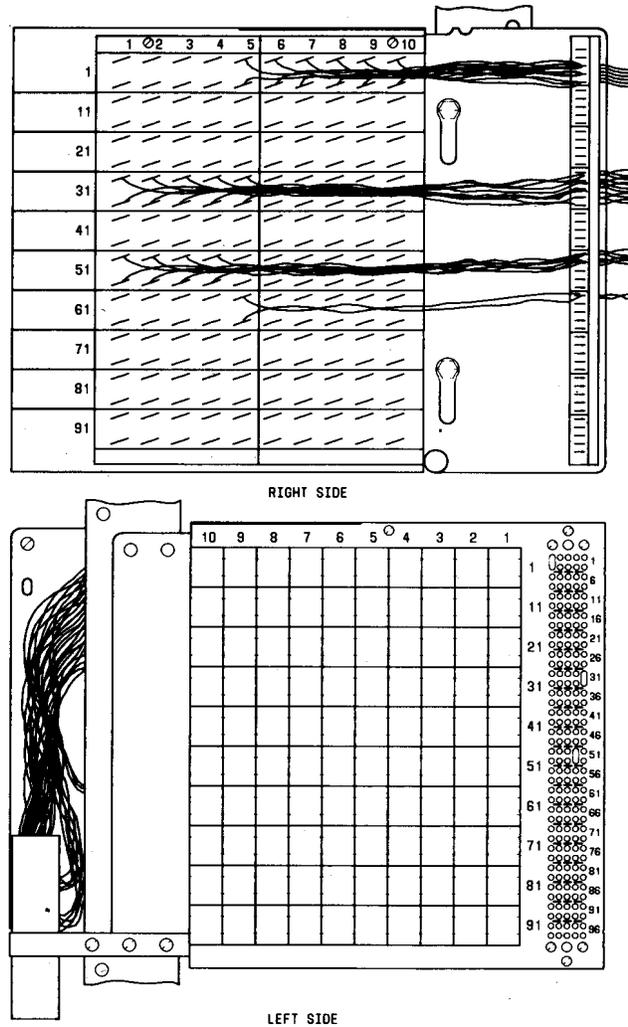

Fig. 23— 305A1-100, B1-100, C1-100, or D1-100 Connector
**2.15 305A1-100, B1-100, C1-100, and D1-100:** The 305-type connectors (Fig. 23) consist of a fire retardant plastic panel equipped with a light olive gray PVC sheath stub cable having 100